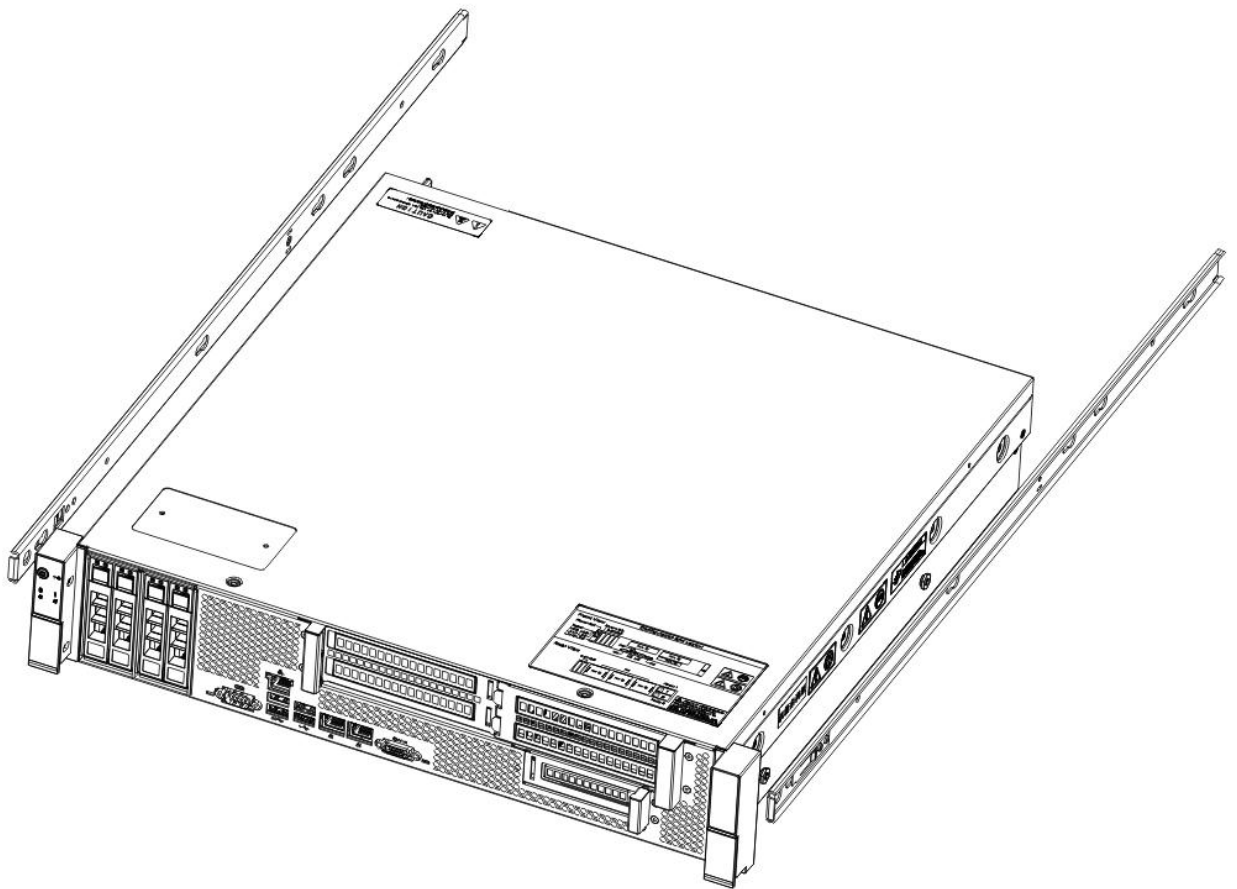
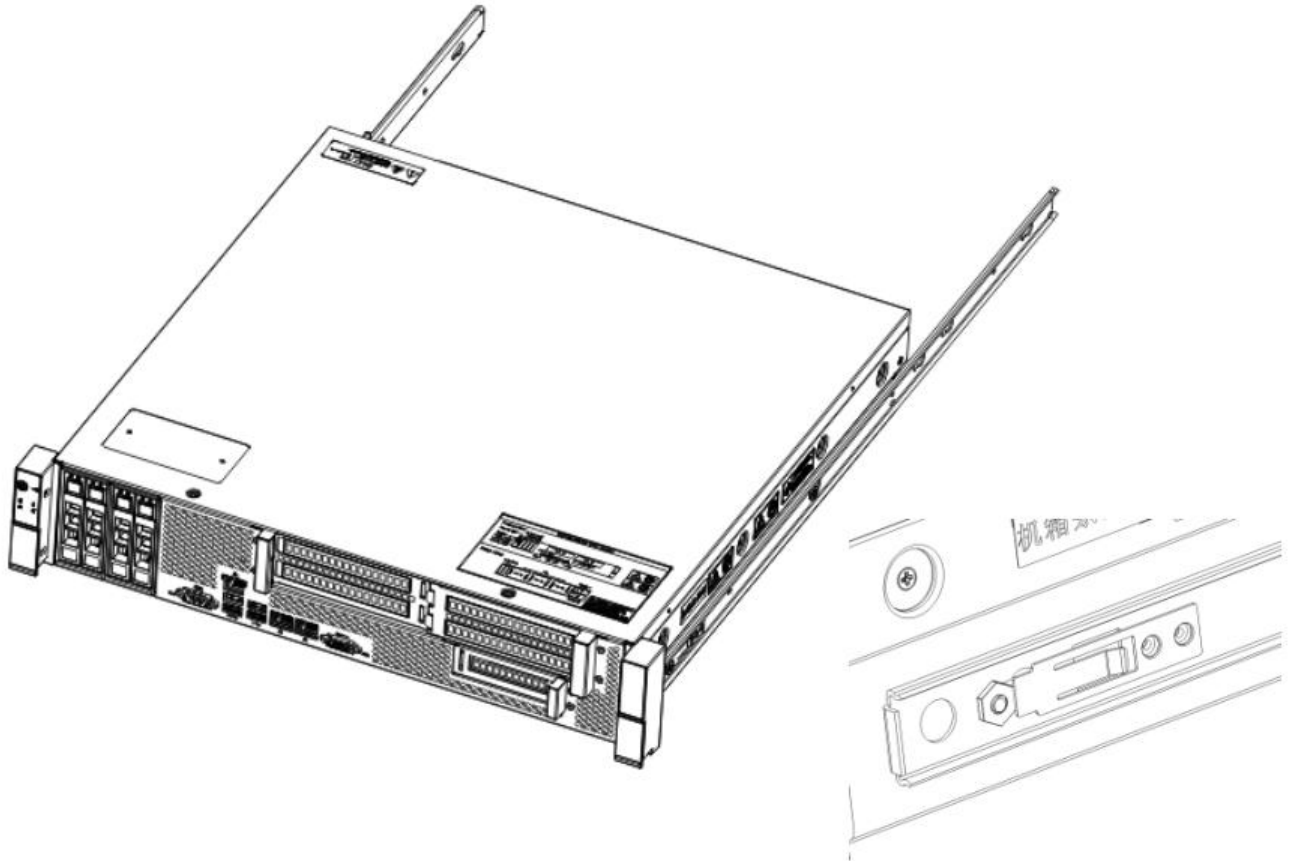

Figure 5.4
Figure 5.5
2. Install the drawn inner rail on the chassis, as shown in Figure 5.4 and Figure 5.5 below.